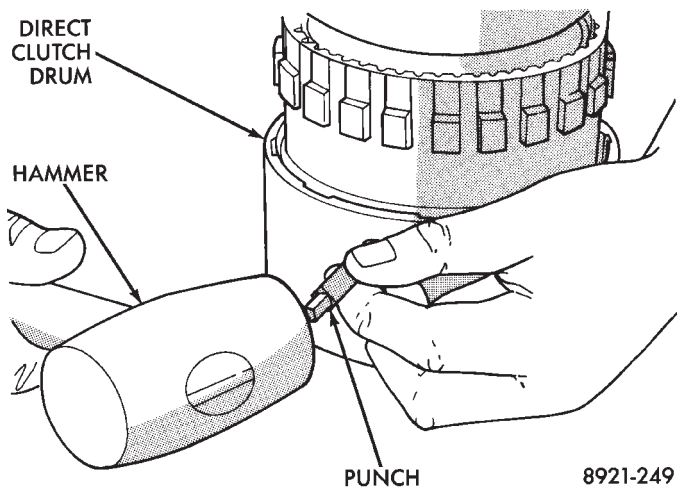

Fig. 322 Marking Direct Clutch Drum And Annulus Gear For Assembly Alignment
(15) Mark position of annulus gear and direct clutch drum for assembly alignment reference (Fig. 322). Use small center punch or scribe to make alignment marks.